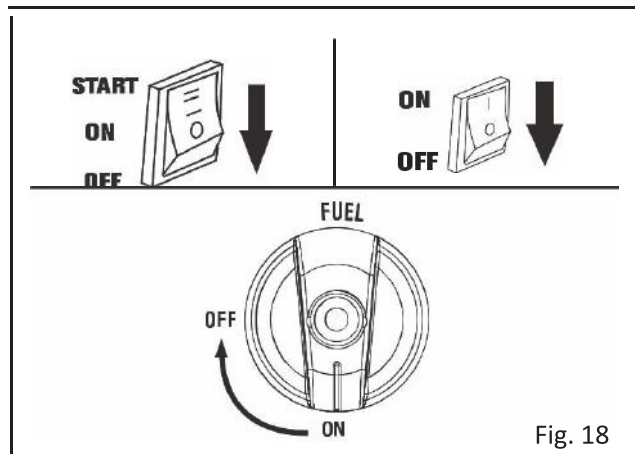

Fig. 18
3. Turn the ENGINE switch to the “OFF” position (Fig. 18).
4. Turn the FUEL switch to the “OFF” position (Fig. 18).